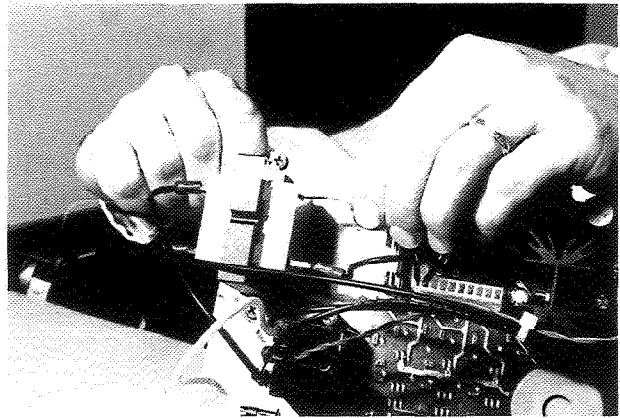

Figure 15
3. Unplug transformer from circuit board. (See Figure 15)